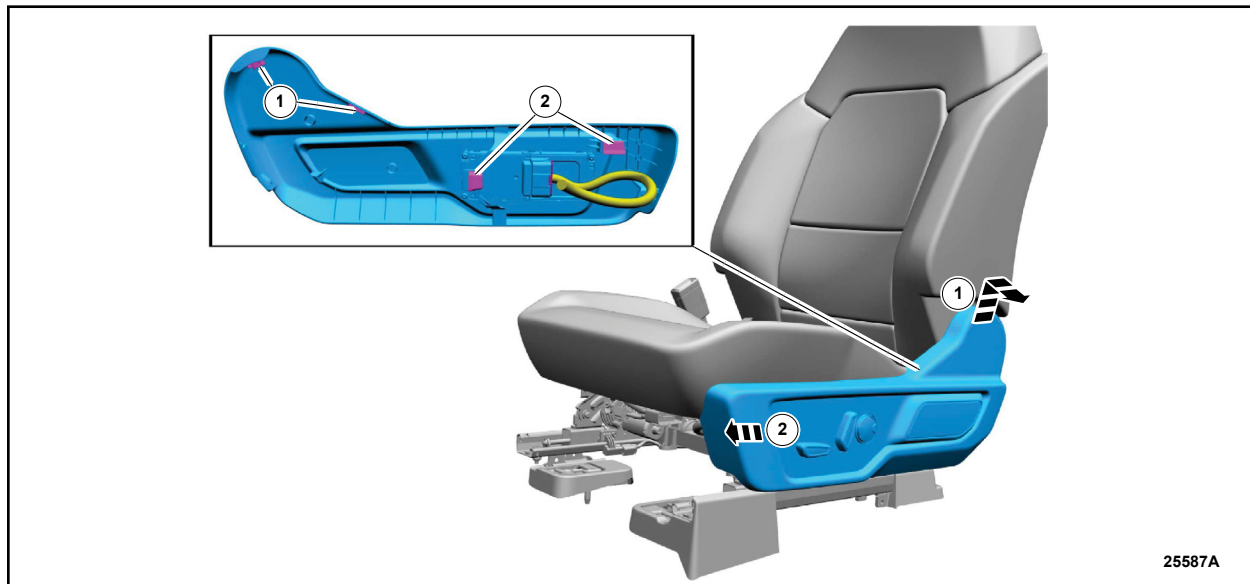

FIGURE 1
1. On the front driver and passenger seats, remove the front seat side shield. See Figure 1.
- a. Firmly grasp the front seat side shield, lift up and out, separating the front seat side shield from the recliner bracket (1).
- b. Slide the front seat side shield forward and separate the front seat side shield from the seat (2).